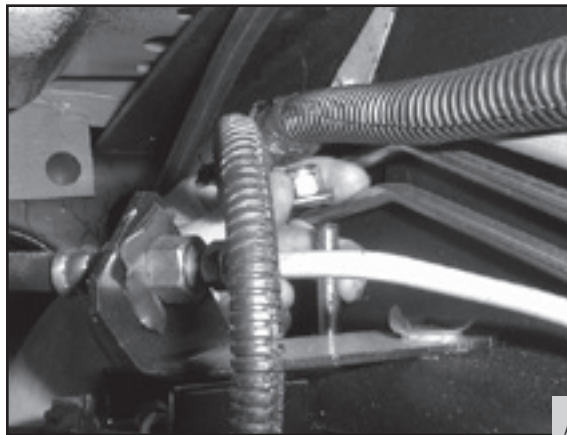

fig. 11
5. Install nut (J) and washer (K) on the carriage bolt inserted through the existing jounce bumper bracket hole (Fig. 11).